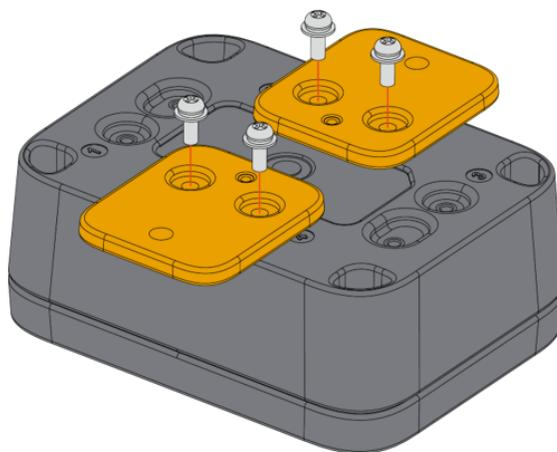

Figure 17: Fixing the wall mount on the enclosure
2. Fix the wall mounts marked with the letter **D** on the WisBlock Unify Enclosure using four (4) pieces of M3*8 mm head screw with a washer. Place it on fixed positions number **1 & 3** or **2 & 4** of the enclosure, as shown in **Figure 17**.